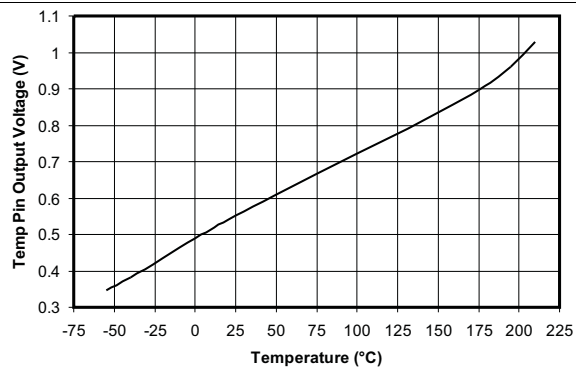

Figure 10. Temperature Pin Output Voltage vs Temperature
(3) See Figure 10.
The temperature output terminal (TEMP, pin 3) provides a temperature-dependent voltage output with approximately 60-k Ω source impedance. As seen in Figure 10, the output voltage follows the nominal relationship: